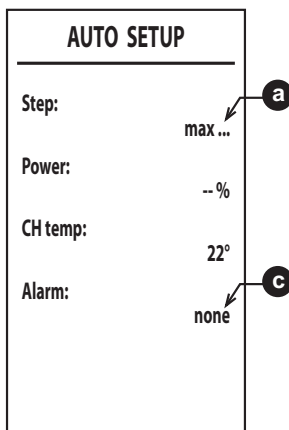

fig. 38
6. After ignition, the burner goes to the various powers (max, med, min) indicated by point **a** (fig. 38).
8. If the ignition sequence described in point "6" is not successful, the display shows the message **max\_err** at point **a** and an error code at point **c** (fig. 38).